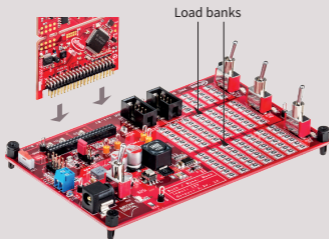
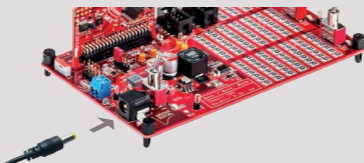

Figure 1
Figure 3
- › Plug one of the control cards into the power board in such way that the control card “noses” goes through the drillings on the power board (see Figure 1)
**IMPORTANT NOTE:** The power board contains resistive load banks (Figure 1). These loads are purely resistive and during operation may become hot. To prevent injuries, special care is advised when touching the on-board resistor banks during the operation. Any other kind of load, including other resistors, can be connected to the connector “Vout” for the purpose of further test or evaluation (Figure 3 blue connector). Using this kit without taking necessary measures for cooling and isolating external loads may cause personal injuries. This evaluation board is intended for use only by qualified and skilled technical staff for laboratory usage. Please read disclaimer page carefully before using this kit.